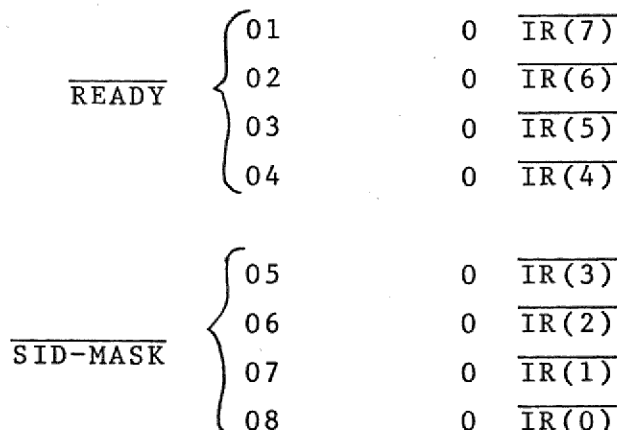

fig. 1 Interrupt Strapping
2.4 Interrupt: The module has two interrupt sources: The READY-interrupt and the SID-interrupt. The READY-interrupt source is equal to the READY-flag of the module. The SID-interrupt is generated if the data input line is active and the MASK flip-flop is set. The state of the data input line is also available in the status word of the module. The interrupt sources of the module can be connected to the different interrupt request lines IR(7:0) using a 16 pin component board (fig.1). The interrupt sources are open collector, active low types, and may be "wire-or'ed" to other interrupt sources.